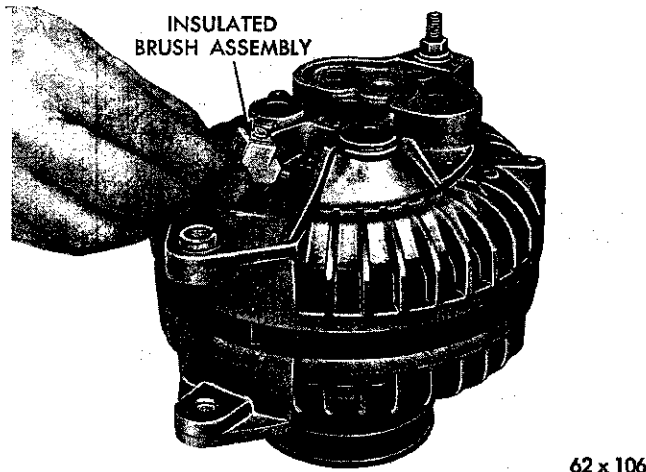

Fig. 12—Removing or Installing the Insulated Brush
(1) Remove the retaining screw lockwasher, insulated washer, and field terminal, and carefully lift the plastic holder containing the spring and brush assembly from the end housing (Fig. 12).